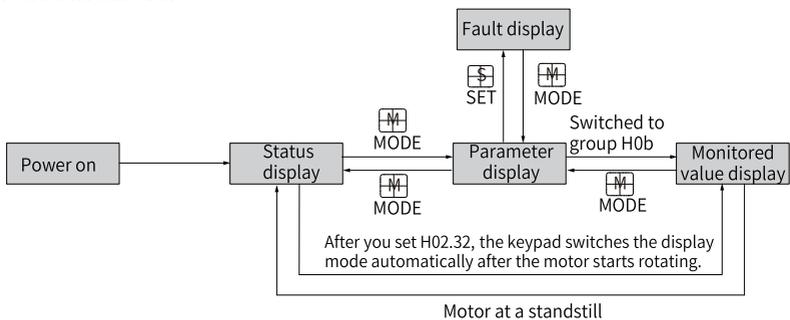

Figure 5-3 Switchover among different display modes
- Press **MODE** to switch among different display modes based on the conditions shown in "Figure 5-3" on page 36.